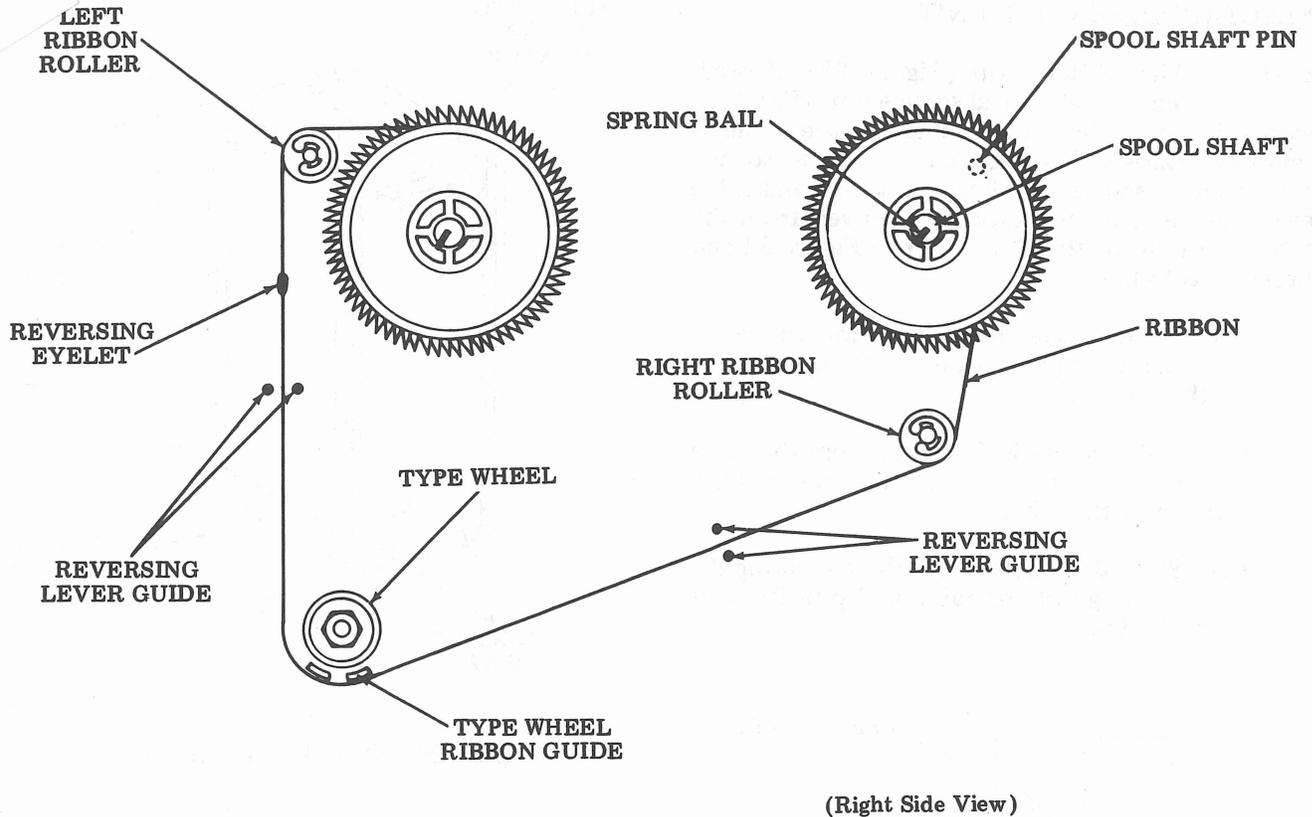

Figure 21 - Reperforator Ribbon Routing
4.29 To route the new reperfocator ribbon, straighten the spring bail and lift the spool off the shaft. Remove the packaging, and reel out enough ribbon to reach the empty spool, and for three turns on the spool. Refer to Figure 21 and perform the following routing procedure: